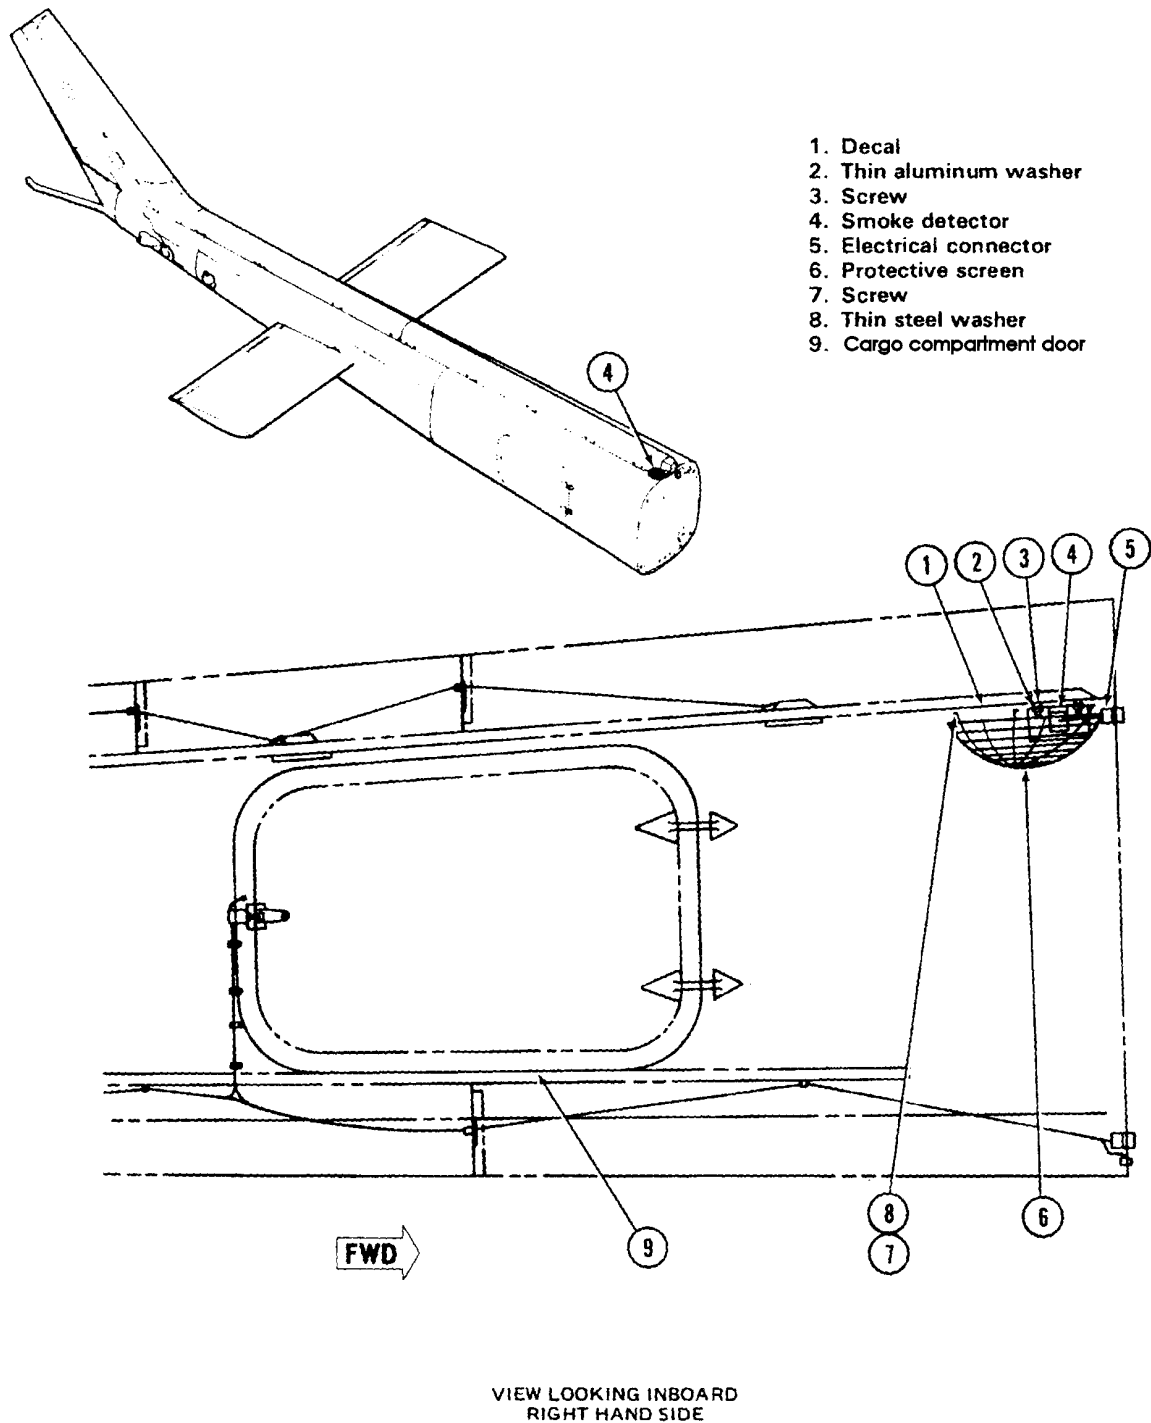

Figure 26-2. Cargo Compartment Smoke Detector
The cargo compartment smoke detector is a closed assembly housing solid-state electronic components and a light sensitive detector. The detector (4, Figure 26-2) is located in the forward end of the baggage compartment roof. A protective screen is installed over the detector to provide protection from items stowed in the compartment. The instant smoke reduces light transmission in the baggage compartment 30 to 35% below that of clear air, the detector causes the CARGO FIRE warning light on the instrument panel to flash intermittently. For more detailed description and wiring diagrams, refer to Chapters 96 and 98.
26.8.1.2 Open cargo compartment door (9, Figure 26-2).
26.8.3.1 Align mounting holes in detector (4, Figure 26-2) with airframe mounting holes.